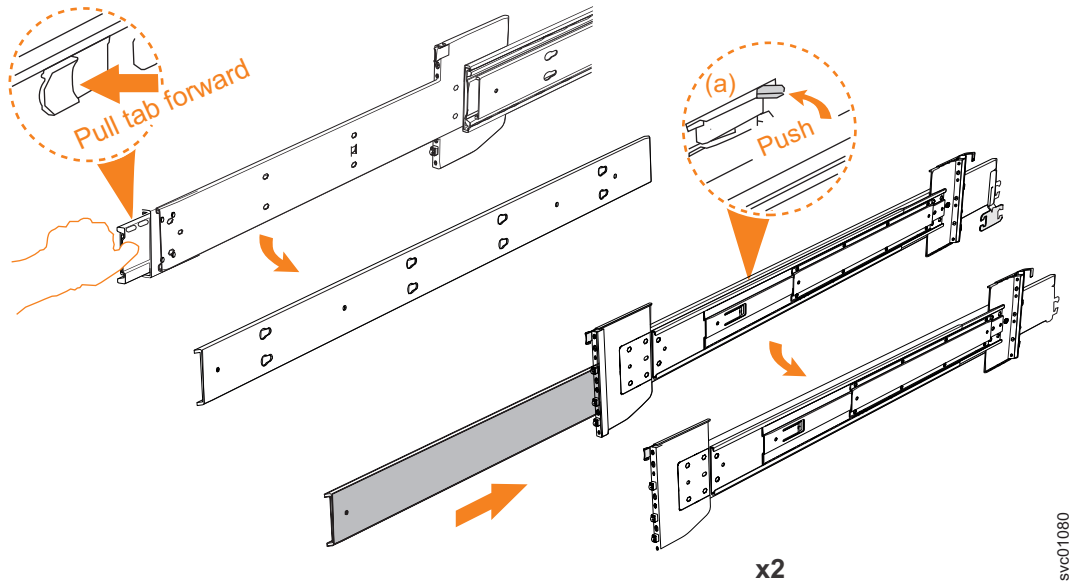

Figure 52. Detaching the inner rail section
3. Remove the inner member of the rail. Push the tab (**a**) and slide the middle rail member back, as shown in Figure 52 on page 59.